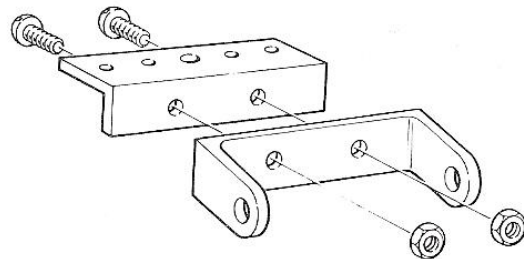

Fig.9
2. Remove the two short round head screws from the short angle bracket contained in the screw pack. Fasten the short angle bracket to the 'U' bracket using two of the small round head screws and nuts from the screw pack. **See Fig 9.**